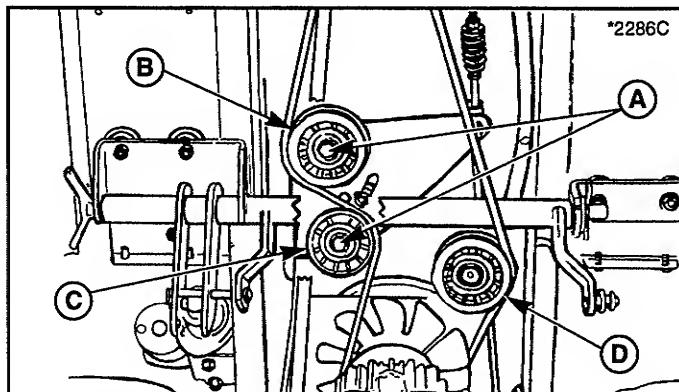

Figure 34. Drive Belt Idler Pulley
- See figure 34. Loosen capscrews (A). Slip belt from between front V-pulley (B) and belt stop and from between rear idler pulley (C) and belt stop.